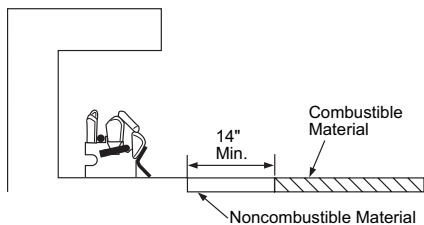

Figure 8 - Minimum Fireplace Clearances If Installed at Floor Level
- If installing appliance on the floor level, you must maintain the minimum distance of 14" to combustibles (see Figure 8, page 11).